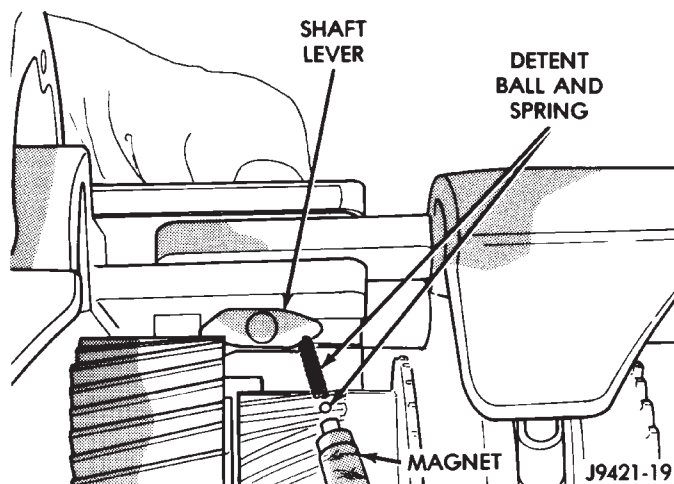

Fig. 20 Removing Shift Shaft Lever Detent Ball And Spring
(1) Place shop towel over shaft lever and bushing to contain lever detent ball and spring.
(2) Rotate lever and bushing upward out of shift forks and catch ball and spring as they exit shaft lever (Fig. 20).